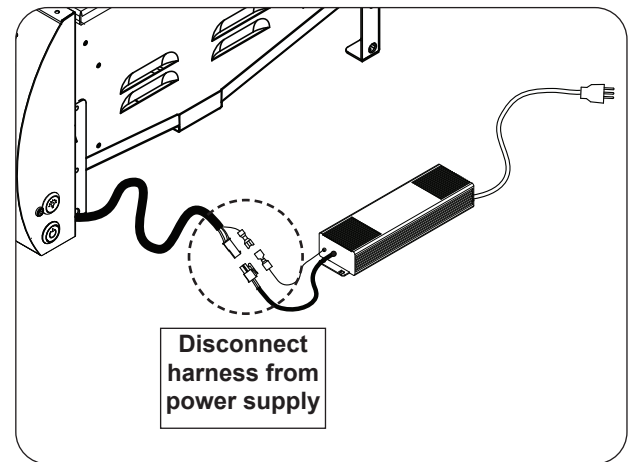

Fig. 29-2 Disconnect harness
1. Locate the harness coming from the grill and disconnect it from the power supply (see Fig. 29-2).